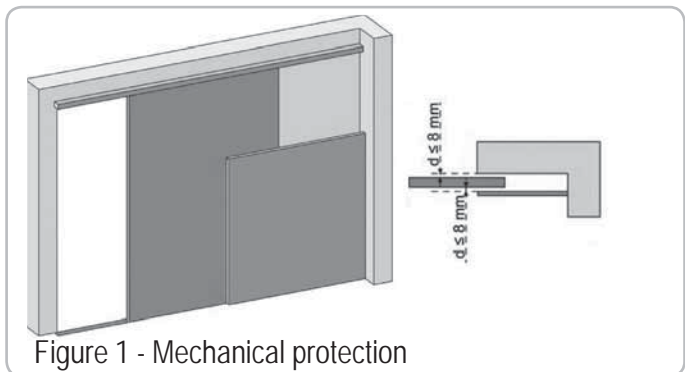

Figure 1 - Mechanical protection
ZONE 2* Risk of crushing with an adjoining fixed part	Obstacle detection built into the motorisation. It must be imperatively checked that the obstacle detection complies with annex A of the standard EN 12 453. Mechanical protection (see figure 1) or via safety distances (see figure 2)
2.1 Product components - Fig. 1